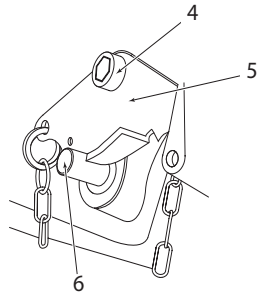

Figure 3
2. Align hole in flat plate (5) with hole located above where the lock knob was located. Make sure the flange on the flat plate (5) is pointed away from the locking device and the gap in the flange cradles the pin (6) as shown in figure 3.
3. Insert screw (4) through the hole on the flat plate (5) and into the balancer. Tighten the screw (4) using a 6 mm Allen wrench.